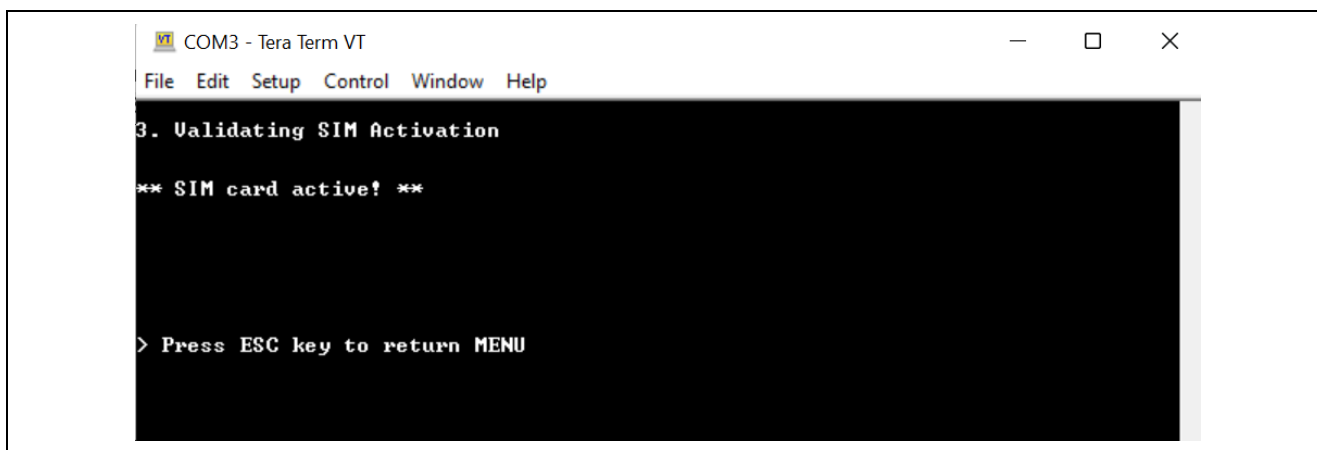

Figure 11. Validating SIM Activation
11. Finish the device registration. The **RSK-RX671** board and SIM card should be activated on the Launchpad platform and can be validated on the Tera Term terminal as shown in Figure 11.